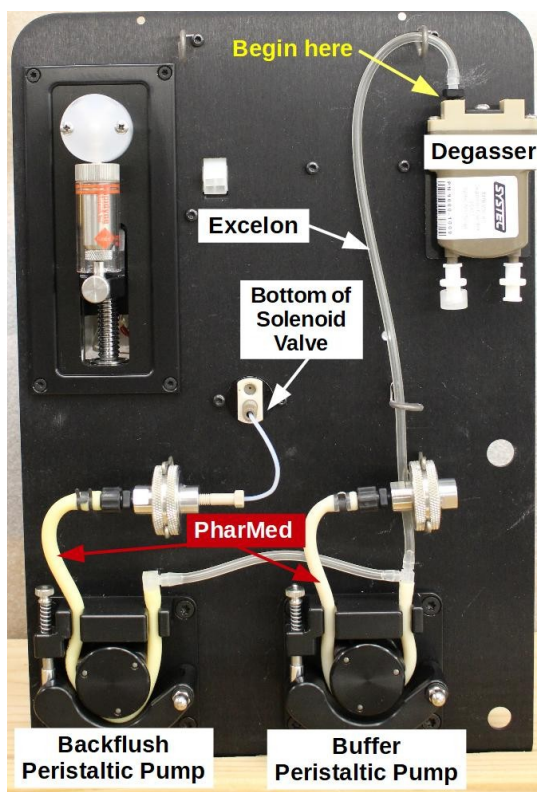

Figure 1. Installing the Peristaltic Pump Connection on the Plumbing Panel.
- Route the Excelon Tubing up through the Tubing Support above the Degasser, then down through the next Tubing Support, behind the Buffer Filter, and then neatly insert the PharMed Tubing into the Buffer Peristaltic Pump and attach to the left side of the Buffer Filter using the Adapter as shown in Figure 1.
- Route the Excelon Tubing that branches off the first connection, behind the PharMed Tubing exiting the Buffer Peristaltic Pump, and neatly insert the next section of PharMed Tubing into the Backflush Peristaltic Pump and attach to the left side of the Backflush Filter using the Adapter as shown in Figure 1.